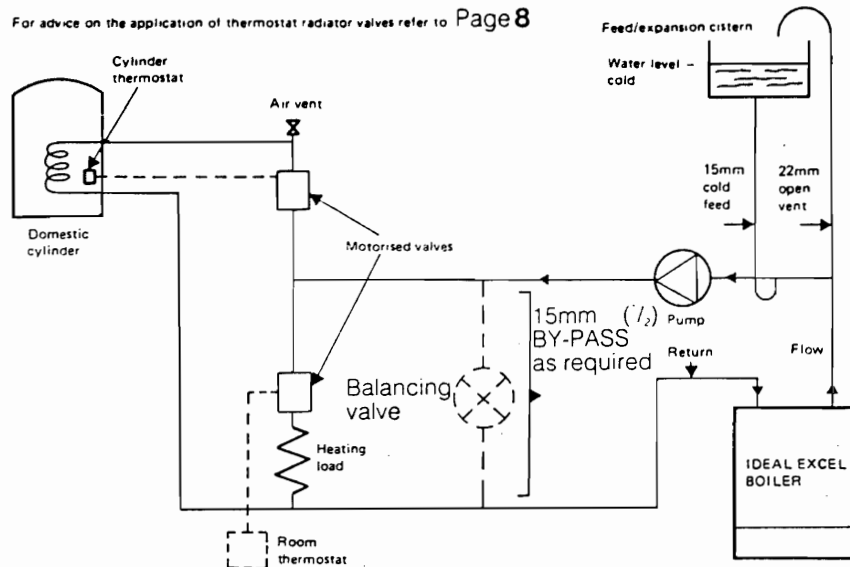

Fig. 6
- (a) Systems fitted with 2 port SPRING CLOSURE valves (suitable valves, are those featured in Fig 16, which also shows the electrical wiring details which MUST be adhered to. See also the schematic pipework layout-Fig. 6 for further information.